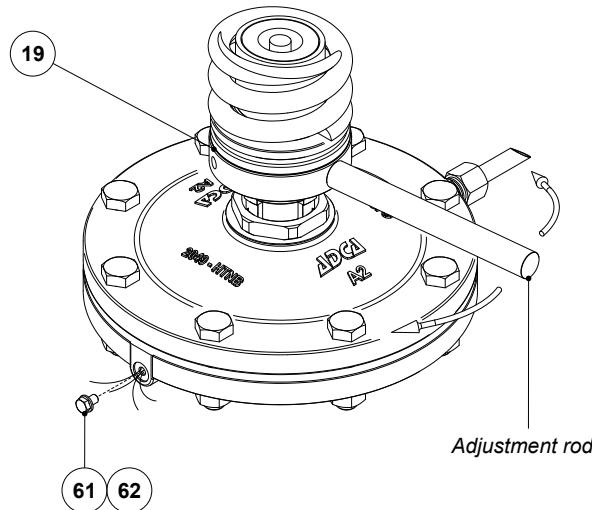

Fig. 2 - Changing the compression of the adjustment spring
- Set the downstream pressure by turning the spring adjusting nut (19) with the help of the adjustment rod, monitoring with the aid of the downstream pressure gauge.
- Turn the adjustment rod clockwise to increase spring compression and increase downstream pressure – see Figure 2.
- Turn the adjustment rod counterclockwise to decrease spring compression and reduce downstream pressure – see Figure 2.
1. Drain the actuator and sensing pipe through the actuator vent screw (61).
3. Relax the adjustment spring (16) by turning the spring adjusting nut (19) counterclockwise using the adjustment rod – see Figure 2.
- a. Unscrew the lock nut (24) away from the actuator housing and until reaching the end stop.
- d. Fix the actuator onto the valve bonnet by screwing it (clockwise). As the actuator housing touches the lock nut, unscrew the actuator by no more than a full turn until the compression fitting (60) is square with the valve outlet connection.
- e. Screw the lock nut (24) tightly against the actuator housing, tightening with the recommended torque – see section 9.6 – Tightening torques.
1. Relax the adjustment spring (16) by turning the spring adjusting nut (19) counterclockwise using the adjustment rod – see Figure 2.
3. Unscrew nuts and bolts (63, 64) and separate the lower (51) and upper (52) diaphragm chambers.
5. Untighten the nut (57), remove the washer (56) and replace the diaphragm (55).
6. Refit the washer (56) and tighten the nut (57) with the recommended torque – see section 9.6 – Tightening torques.